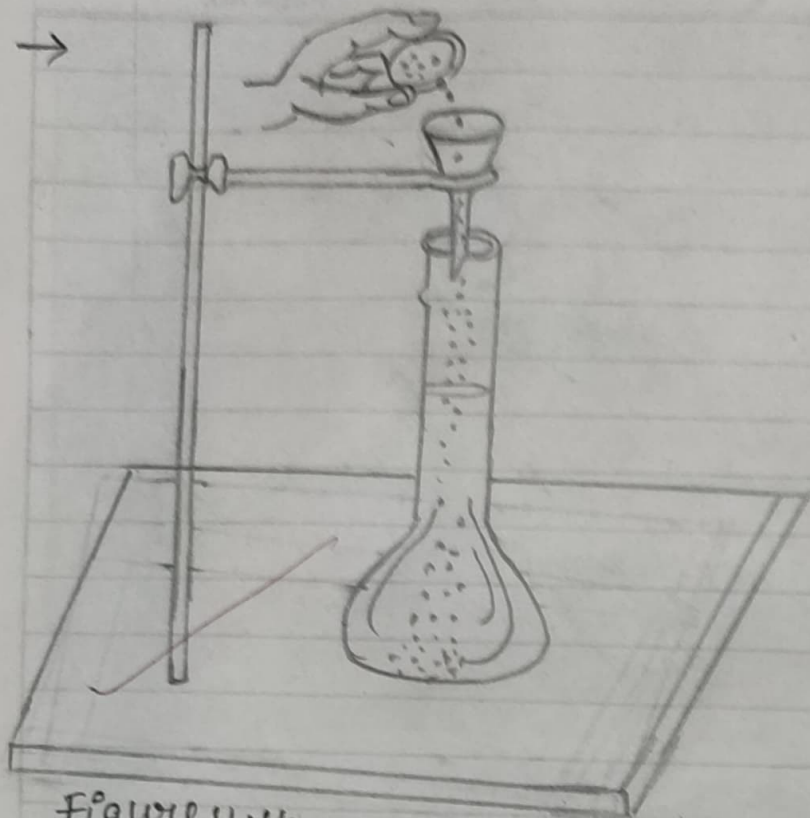

Figure 11.14. Transferring oxalic acid to the flask.
4) Transfer gently and carefully the oxalic acid from the watch glass into a clean 250ml measuring flask using a funnel. Wash the watch glass with distilled water with the help of a wash bottle to transfer the particles sticking to it into the funnel. [fig. 11.14]